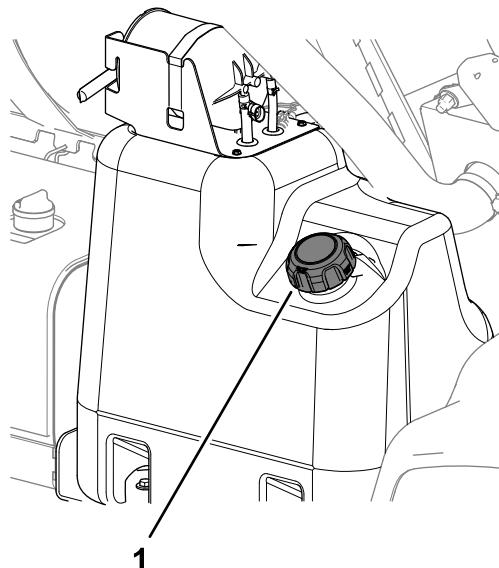

Figure 65
2. Clean the area around the fuel-tank cap (Figure 65).